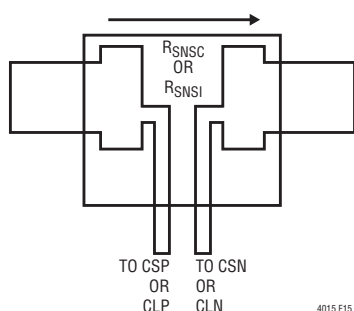

Figure 15. Kelvin Current Sensing
5. Route CLP and CLN sense lines together, keep them short. Filter components should be placed near the part and not near sense resistor. Ensure accurate current sensing with Kelvin connections at the sense resistors. See Figure 15.